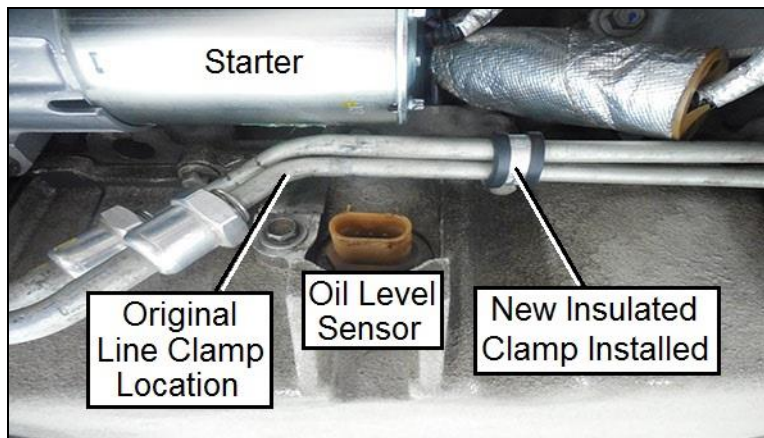

Figure 2
3. Remove the line clamp at the oil pan below the starter and next to the oil level sensor (**Figure 2**).
4. Unplug the oil level sensor (**Figure 2**).
7. Install the insulated clamp around the cooler lines and attach the clamp to the oil pan bolt (**Figure 2**).
8. Adjust the lines after the clamp is installed for clearance at the starter and the bellhousing (**Figure 2 & 3**).